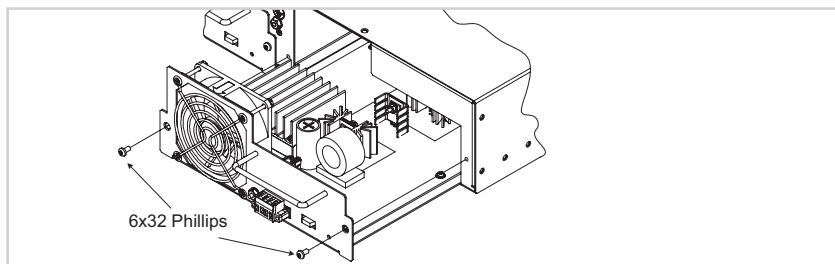

Figure 10: Power Supply Installation
5. Slide the second power supply in to the chassis, as shown in Figure 10.